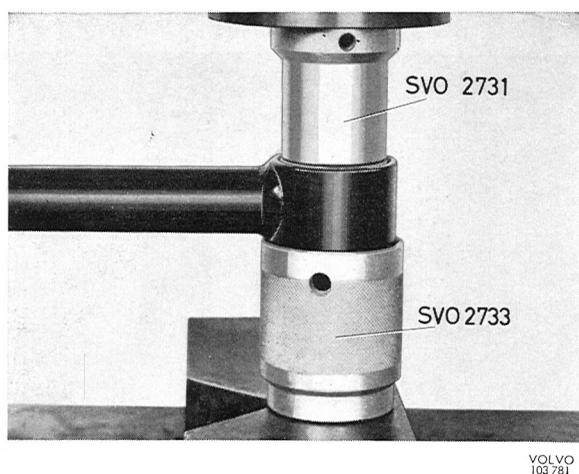

Fig. 7-12. Removal, Panhard Rod bushing
3. Check the bushings. If necessary, press out the bushings with 2731, using 2733 as a counterhold (Fig. 7-12).